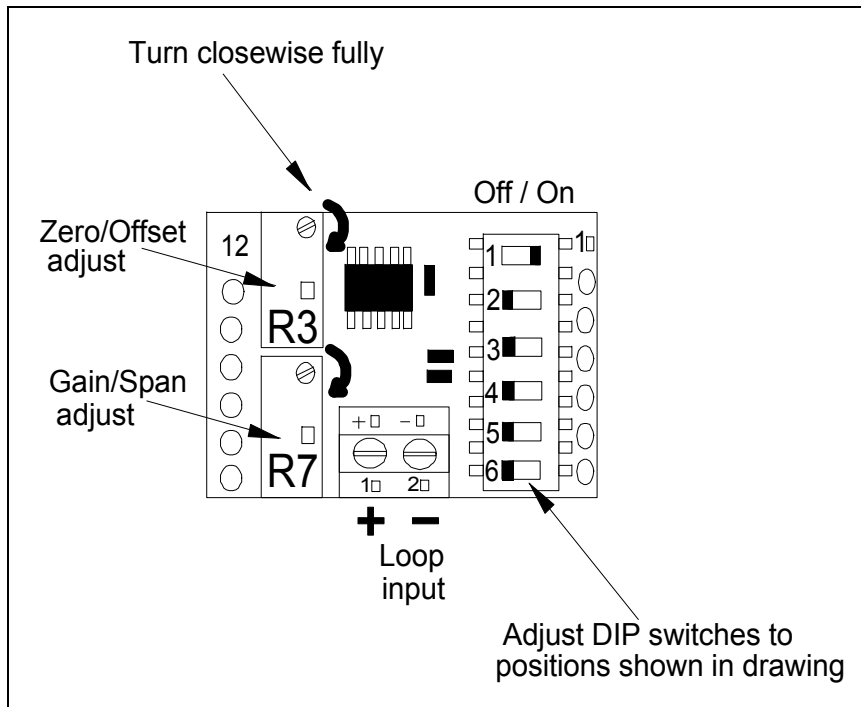

Figure 5-1 Optional Display Calibration Procedure
2. Set all the DIP-switches as shown in Figure 5-1. For display ranges other than 1000 please contact AMC.